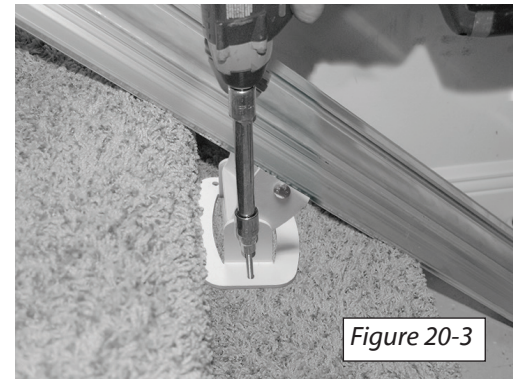

Figure 20-3
2. Secure the rail by positioning one lag bolt in the lower rail bracket and tightening to step. [Figure 20-3]